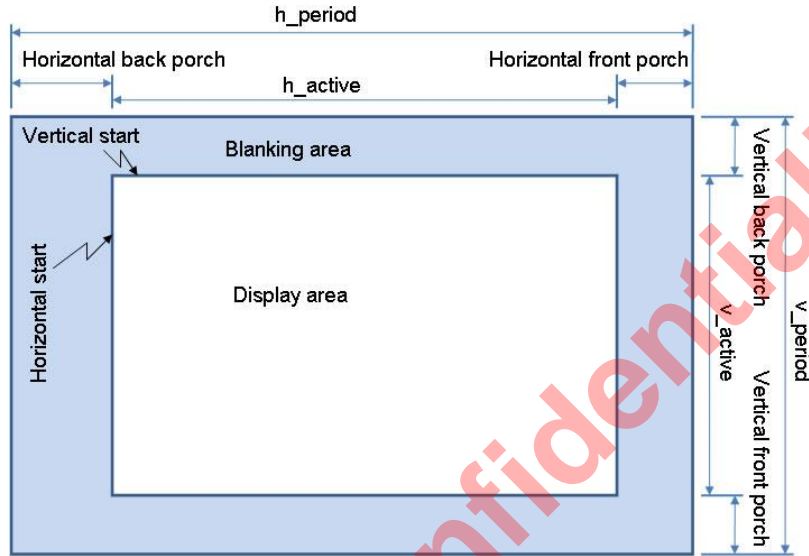

Figure 4.1 - Panel timing diagram
- Display area is illustrated in Figure 4.1.